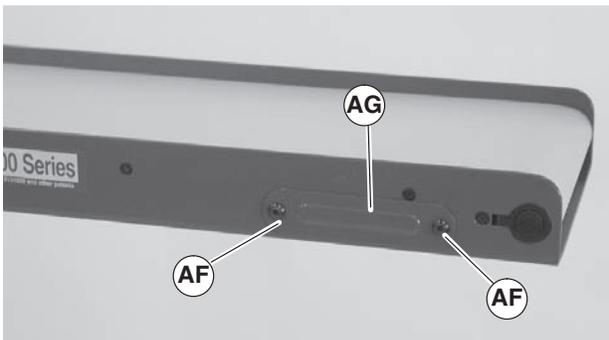

Figure 16
1. a. Remove screws (Figure 16, item AF) and tension pin covers (AG) on both sides of conveyor.